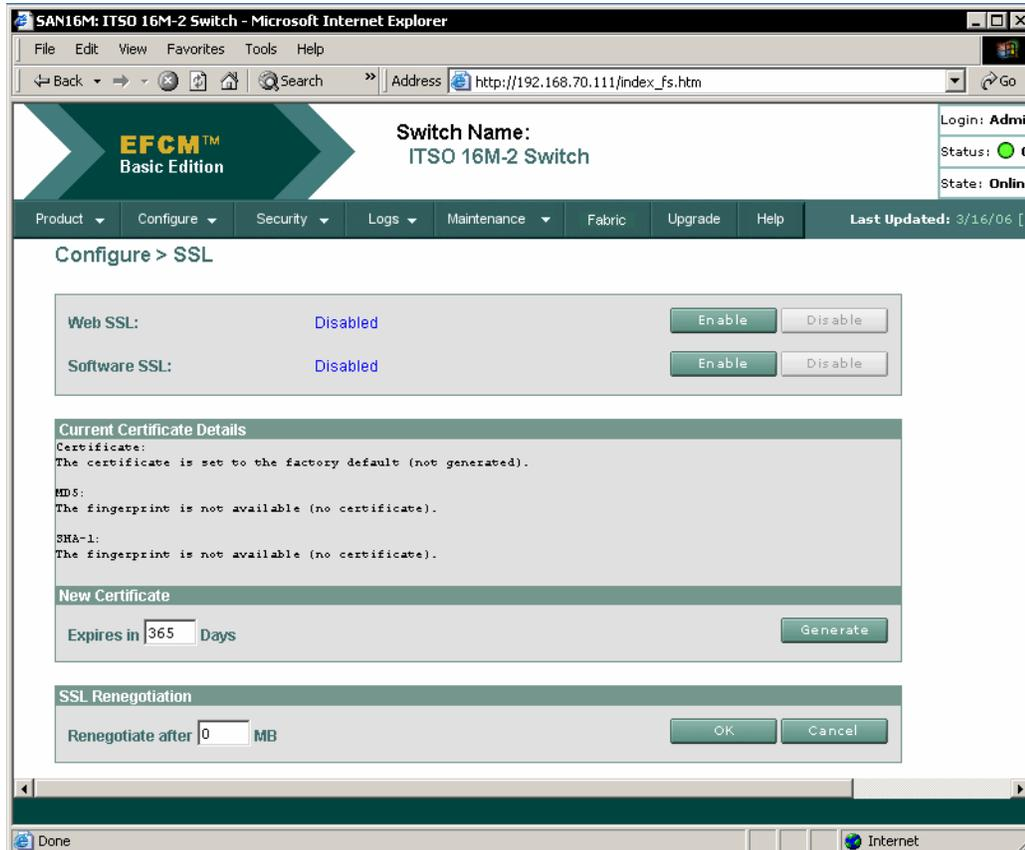

Figure 40 EFCM Basic - SSL view
1. From the EFCM Basic interface click **Configure**, then select **SSL**. This displays the SSL view, as shown in Figure 40.